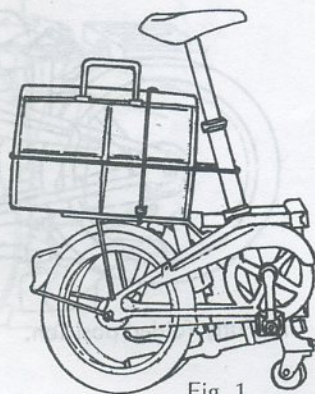

Fig. 1
- 1) Your DAHON Folder can be pushed along beside you in a folded state by using the caster wheel and by extending the seat post to a convenient height (Fig. 1). As the caster wheel is not designed for rough terrain, the bike should either be lifted, or tilted backwards, to run on the 2 large wheels when crossing rough areas.